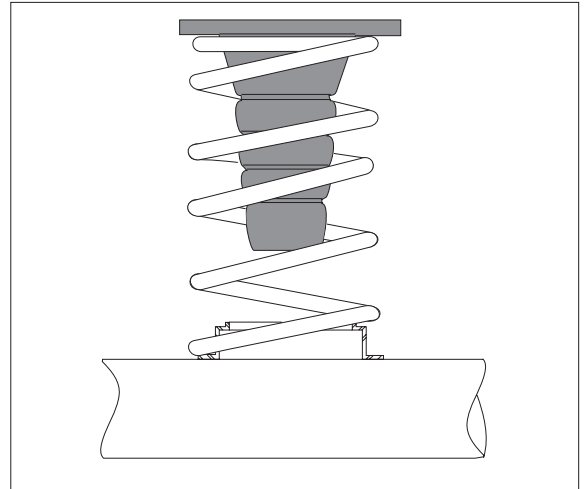
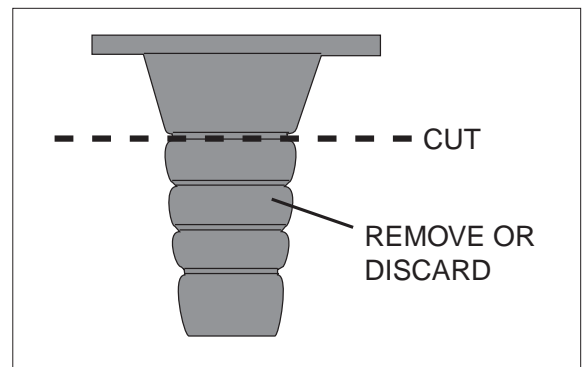

Figure 1
Figure 3
3. There is a large jounce bumper at the top of the coil spring (Figure 1). Trim the jounce bumper as specified in Figure 3.
If the vehicle's headlights are shining into the trees or the vehicle is leaning to one side, then it is not level (fig. 1). Raise the air pressure to correct either of these problems and level the vehicle.
Stability translates into safety and should be the priority, meaning the driver may need to sacrifice a perfectly level and comfortable ride. Stability issues include roll control, bounce, dive during braking and sponginess (fig. 3). Tuning out these problems usually requires an increase in pressure.